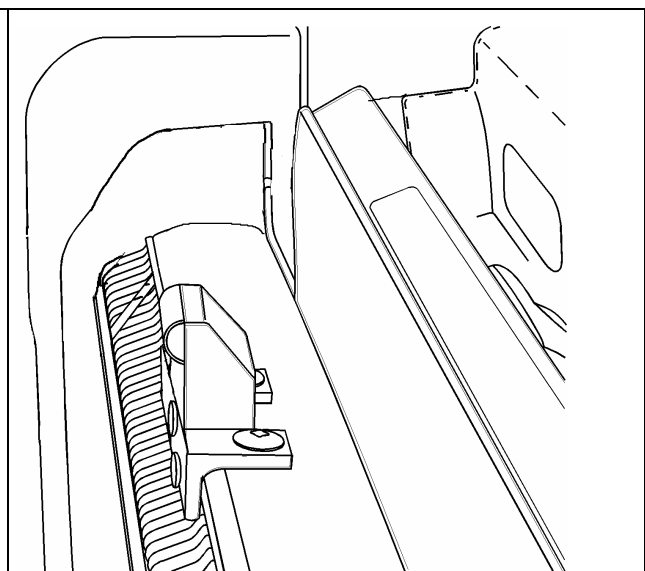

FIGURE 4 : FINAL APPEARANCE ONCE COMPLETED
**Note :** Among the last vehicles concerned by this safety recall, many of them may have been factory assembled with stops in accordance with the specifications of this safety recall. In that case, forget about this recall. A stop in accordance with the specifications of this safety recall is shown on figure 4.
5. Cut the stop along the parting line and file any sharp edges. See the final appearance on figure 4.